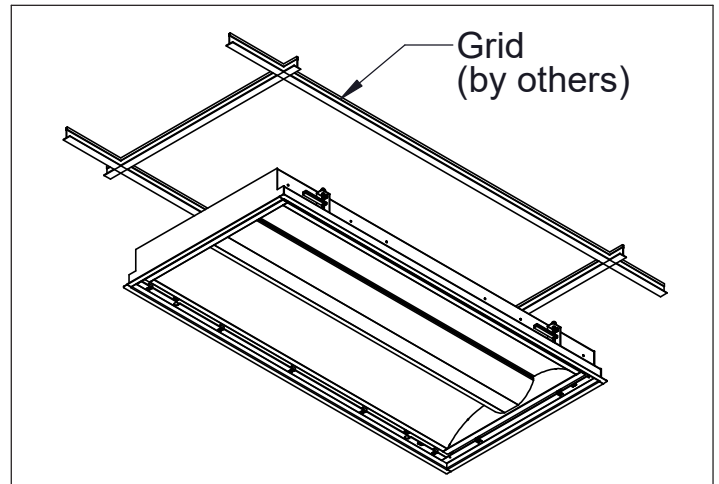

Figure 2
2. Raise Housing into ceiling (Fig. 2)